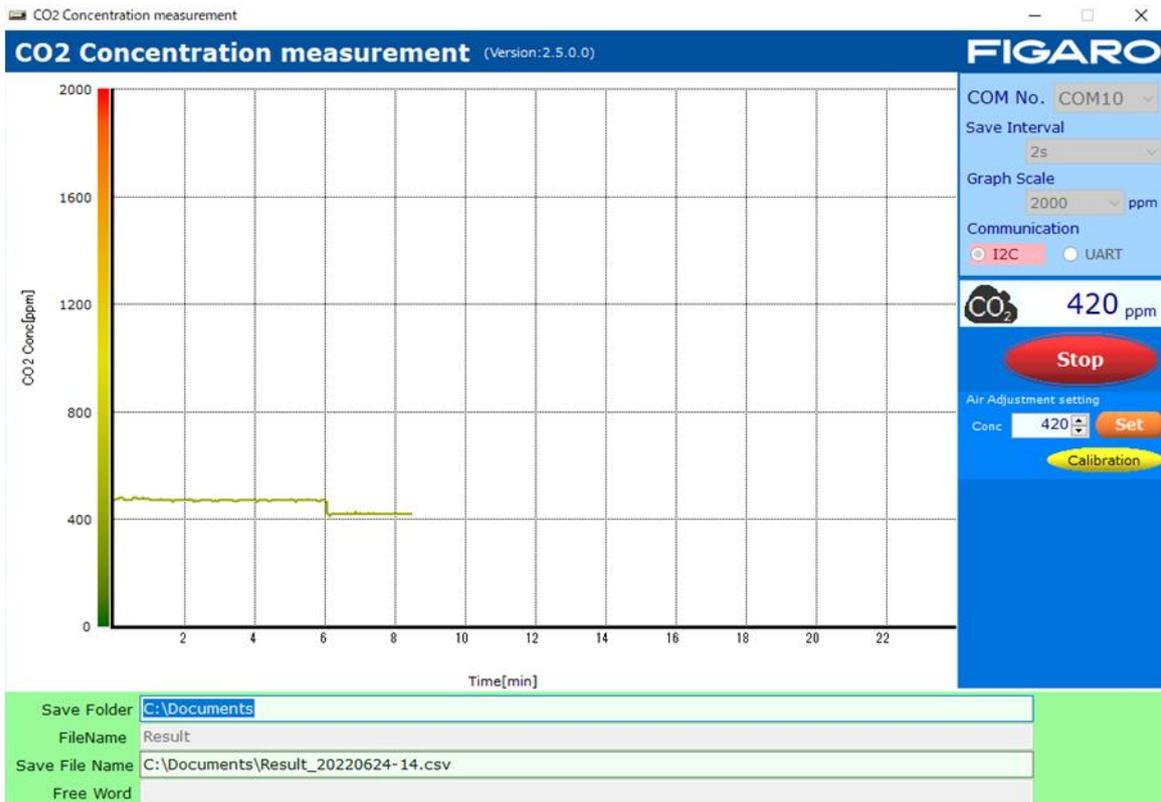

Figure 12 - Display example during Air Adjustment
Figure 12 shows example display concentrations when Air Adjustment is performed assuming that CO2 concentration in ambient air is 420ppm.
- (1) Change the Air Adjustment setting value to assumed CO₂ concentration in ambient air (420ppm in the example shown in Figure 12) on the PC display. Then click [Set] button.
- (2) Confirm that the CDM7162 CO₂ sensor output has been sufficiently stable under this ambient conditions, and click [Calibration] button. And the concentration display will show the same concentration as the Air Adjustment setting value.
(Figure 12 shows an example of CO₂ measurements when clicking [Calibration] button after 6 minutes in ambient air for confirming stable sensor output.)